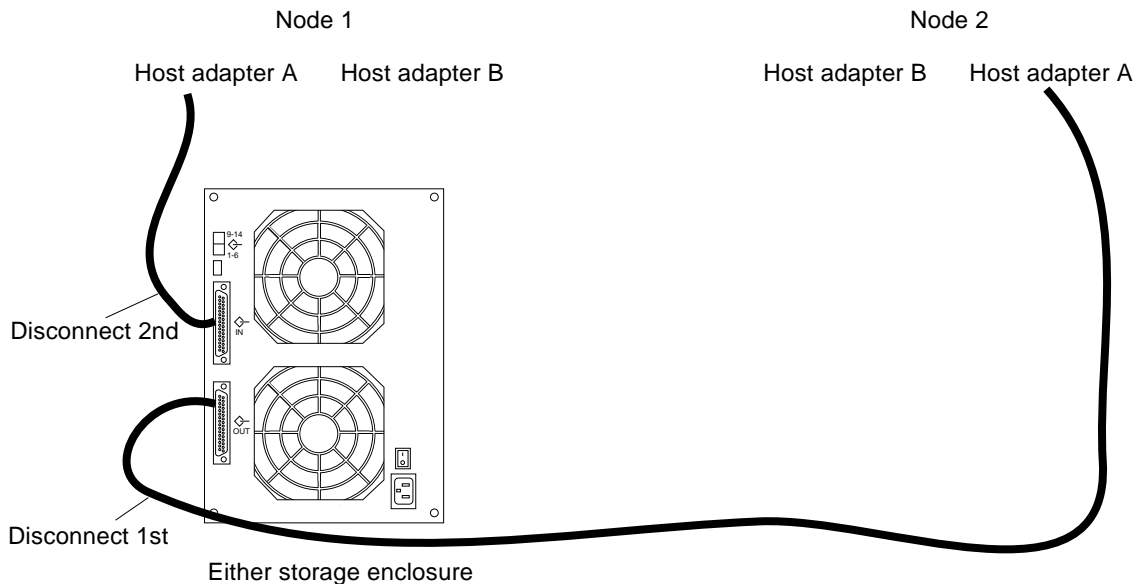

FIGURE 4-4 Disconnecting the SCSI Cables
- 3. Disconnect the SCSI cables from the StorEdge MultiPack enclosure, disconnecting the cable on the SCSI OUT connector first, then the cable on the SCSI IN connector second (see FIGURE 4-4).**
6. **Connect the SCSI cables to the new StorEdge MultiPack enclosure, reversing the order in which you disconnected them (connect the SCSI IN connector first, then the SCSI OUT connector second). See FIGURE 4-4.**